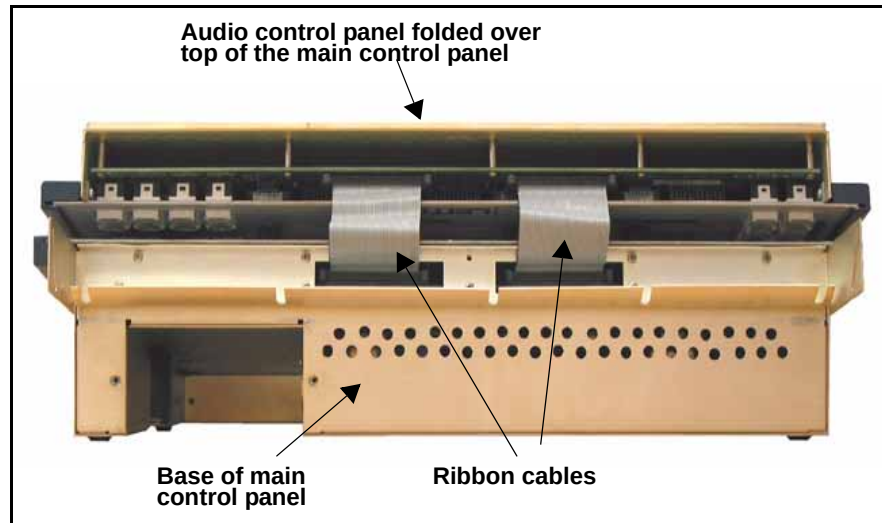

Figure 2-6. Ribbon Cable Between Main and Audio Control Panels
5. Face the audio control panel down on top of the main control panel buttons. Attach the two ribbon cables from the main control panel to the audio control panel (see Figure 2-6).